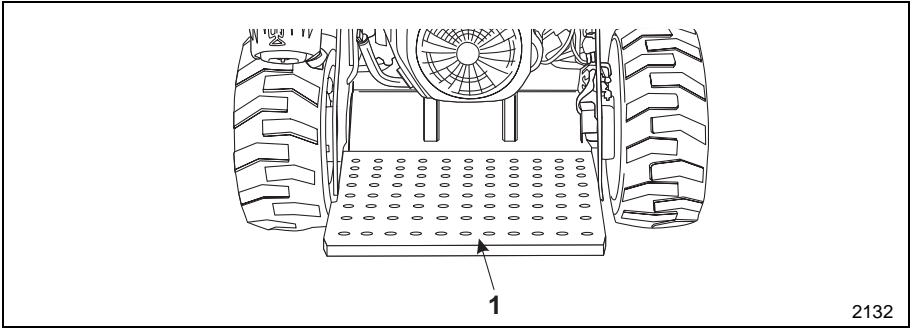

Figure 1-9 Operator's Platform
- Make sure that you are standing on the operator's platform. (Item 1, Figure 1-9)